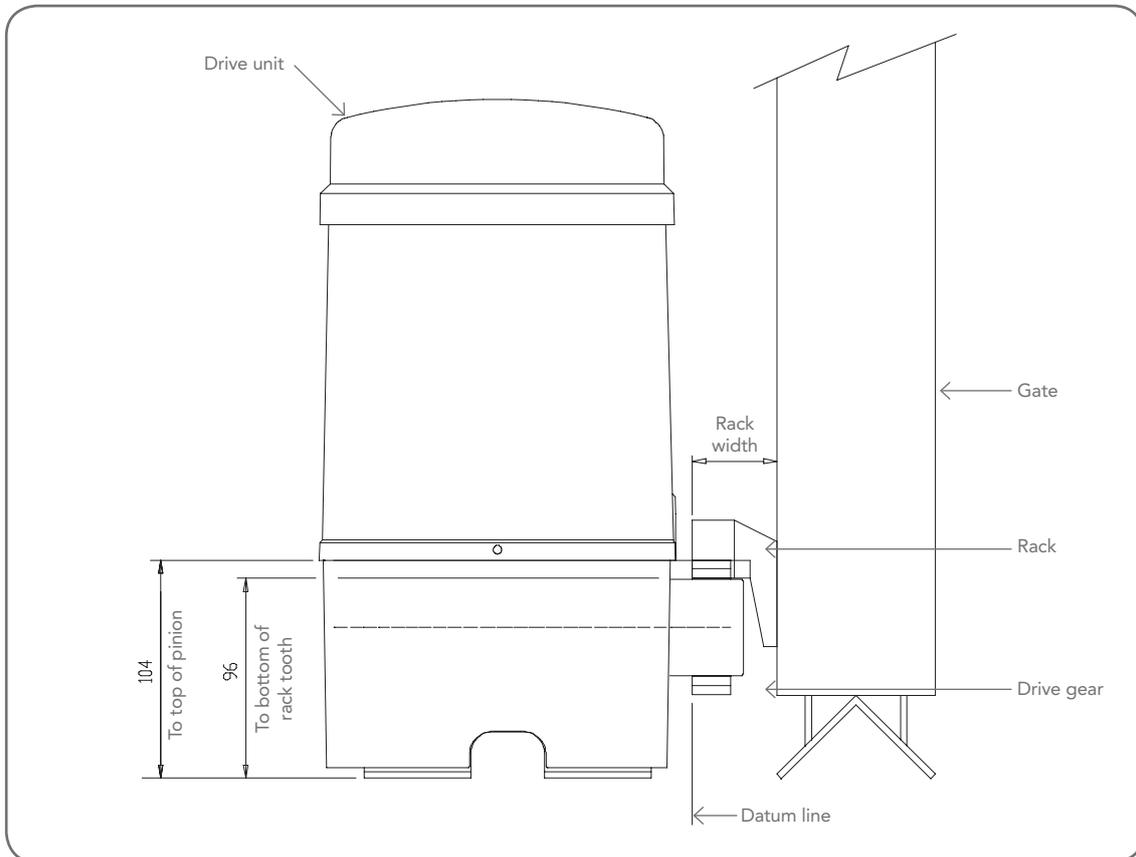

fig 04
1. Prior to mounting of the driver unit determine the distance from the gate to the outer edge of the rack (ie the rack width) to the datum line (see **Fig. 03** and **Fig. 04**). For the ATA plastic racks the width is 40mm. The rack distance may vary depending on the type of rack used. If you must use a different rack, make sure that it is Module 4.